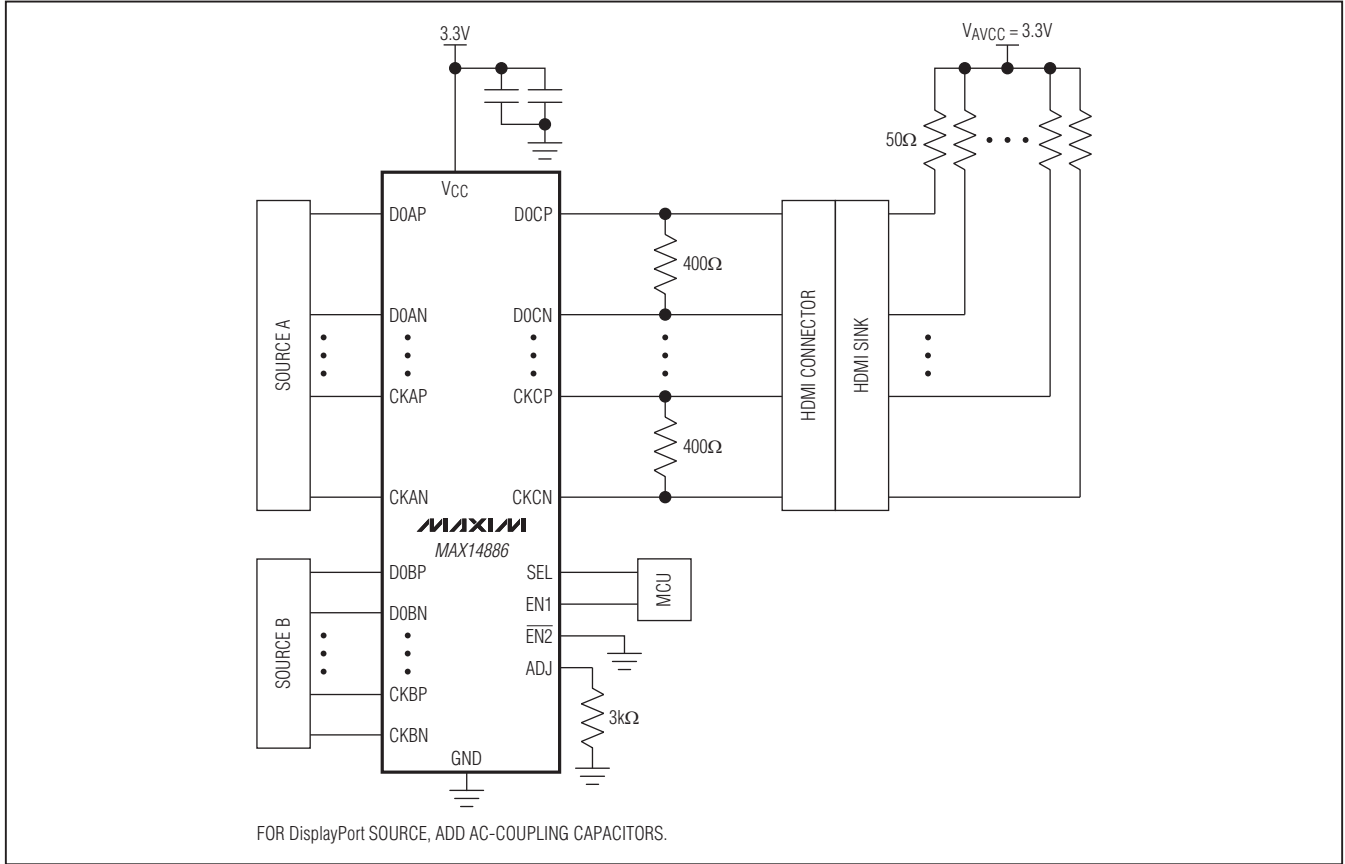

Figure 1. HDMI Driver Application with Output Back Termination
**EYE DIAGRAM, VIN = 200mVp-p, 2.25Gbps, 400Ω BACK TERMINATION, RSET = 3kΩ, FIGURE 1**
The level-shifter's output current and output signal swing are set with an external ±1% precision 3.3kΩ (typ) resistor. If a double output termination (400Ω typ) is desired for signal integrity reasons, the ADJ resistor value can be decreased to maintain a desired output swing (Figure 1).
The device's high-speed, low-skew, active redriver multiplexer is ideal for switching between outputs of dual-graphics systems and signal conditioning to meet HDMI v.1.4 compliance at an external HDMI connector (Figure 1). It is well suited for switching between integrated (e.g., Intel or AMD) and discrete graphics (e.g., NVIDIA or ATI GPU). The device is VESA DisplayPort Interoperability Guideline v.1.1a-compliant (requires external DDC logic) and integrates seamlessly with an external HDMI connector on the motherboard.